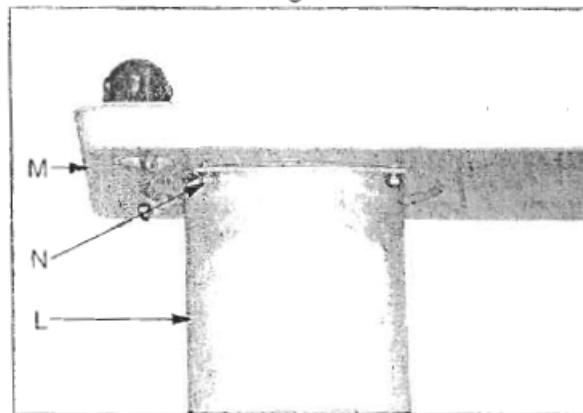

Fig. 4
5. Mount support canister (L, Fig. 4) to base (M, Fig. 4) with four M8x12 hex cap bolts and four flat washers (N, Fig. 4).